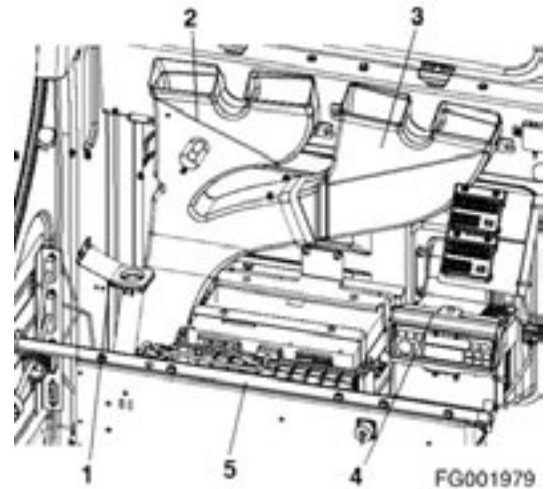

Figure 6
20. Remove air ducts (1, 2, 3 and 4, Figure 6) from cabin rear panel.
21. Remove across bar (5, Figure 6) between left and right side of cabin.